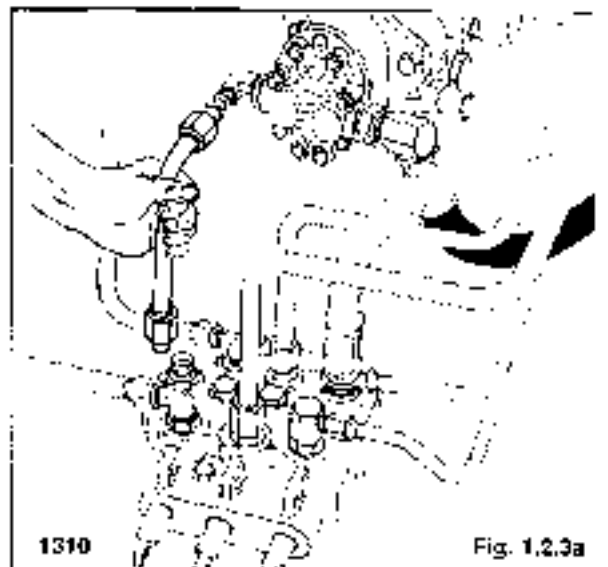

Fig. 1.2.3a
3. Disconnect the line between the hydraulic gear pump and control valve (fig. 1.2.3a).